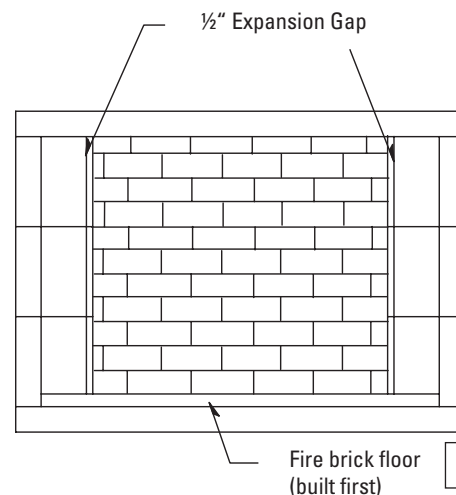

FIGURE 18
4. Next, apply firebrick to the back wall of the unit. The back wall firebrick covers the 1/2" expansion gap left at the brick floor along the back wall of the firebox. **(Figure 18)**